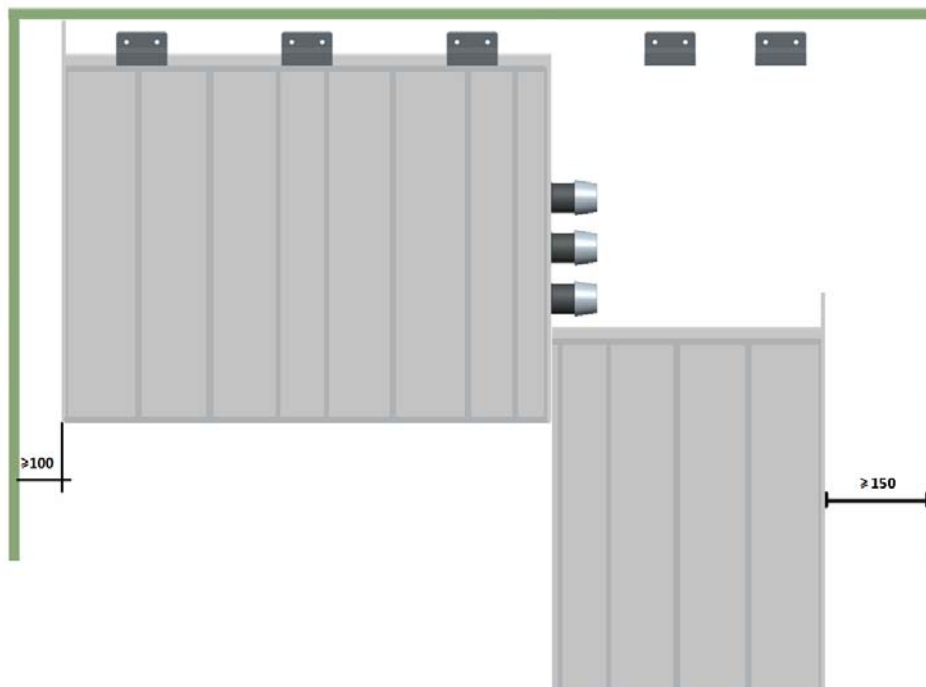

Figure 1: Minimum required lateral free space
- Ensure that there is sufficient clearance towards the lateral wall. Width of the subsequent switchgear + 150mm are mandatory, an extra 500mm is advised for the assembly of the switchgear (see Figure 1).